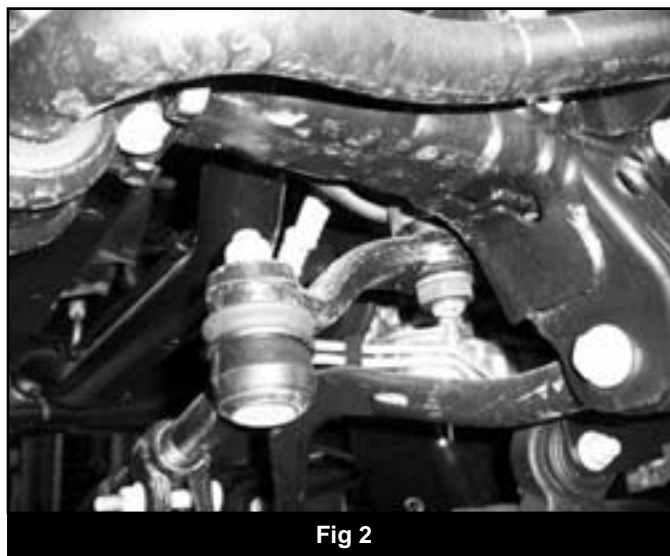

Fig 2
9. Disconnect the steering drag link from the pitman arm (Fig 2). Remove the tie rod end nut and dislodge the tie rod end from the pitman arm with the appropriate puller or pickle fork, do not damage the rubber boot. Retain tie rod end nut.